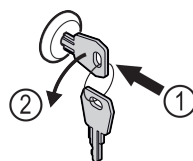

Fig. 164
- Insert the key. Fig. 164 (1)
- Turn the key anticlockwise by 90°. Fig. 164 (2)